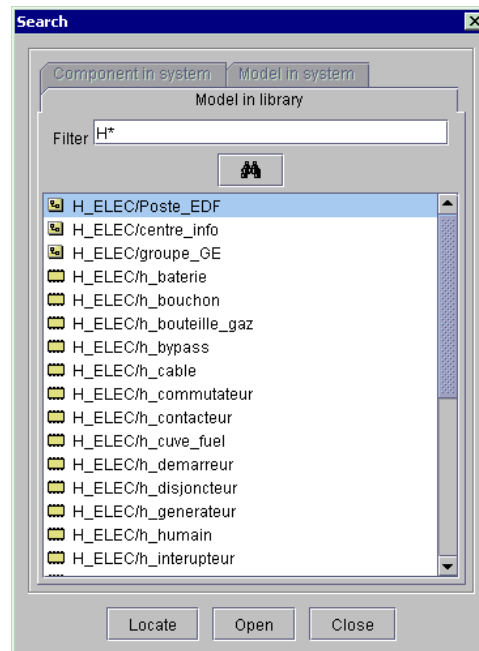

Figure 138 : Models search
- ♦ Select **Search** from the menu **Edition** or the shortcut **CTRL + B** or the command  from the main tool bar; the window **Search** is displayed (Figure 138).